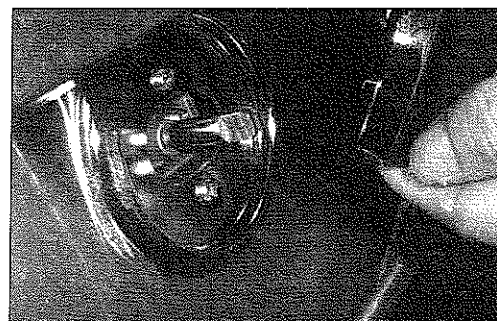

Fig 10
12. Pull out the knobs (one small knob and five large knobs) and set them aside. (See Fig. 10)